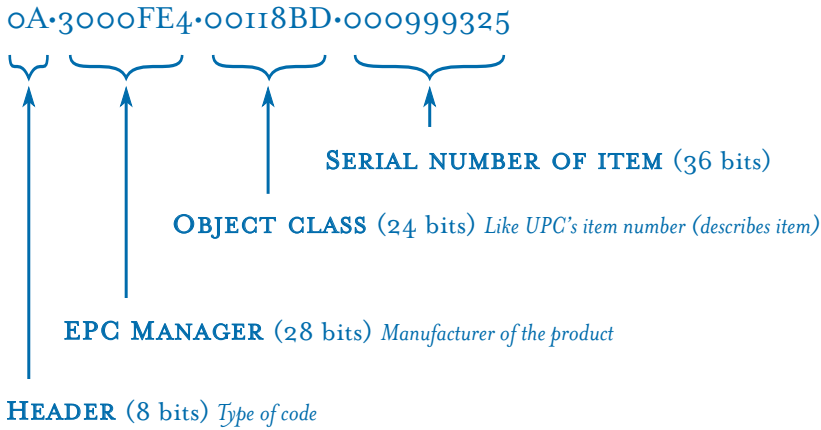

Fig. 2. The Auto-ID Center's Electronic Product Code gives each item a unique identifying number.
But standards are on the way for RFID (see fig. 2). MIT's Auto-ID Center (www.autoidcenter.org) is creating an Internet-based system to automatically identify RFID-tagged items anywhere. Having defined an Electronic Product Code (EPC), RF communications protocols, data management structure, RFID readers, and RFID tags, MIT and its partners, which include Gillette (G), Proctor & Gamble (PG), Sun Microsystems (SUNW), Unilever (UN), and Wal-Mart, have begun field trials.